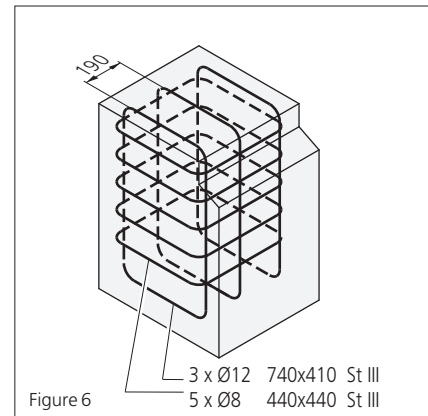

Figure 6
3. Concrete the foundation hole with BH PC 250 concrete (concrete strength $W = 25 \text{ N/mm}^2$). The foundation frame must be concreted evenly and flush. Reinforcement is absolutely required for the barriers (Figure 6).